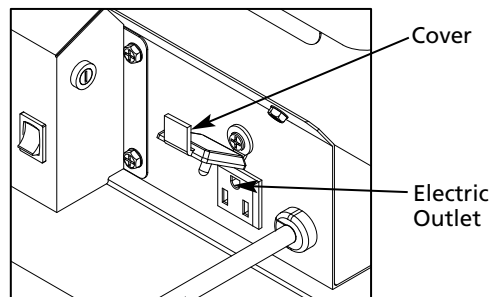

Figure 8 - Extra Electric Outlet
- Always cover electrical outlet when not in use. See Figure 8.